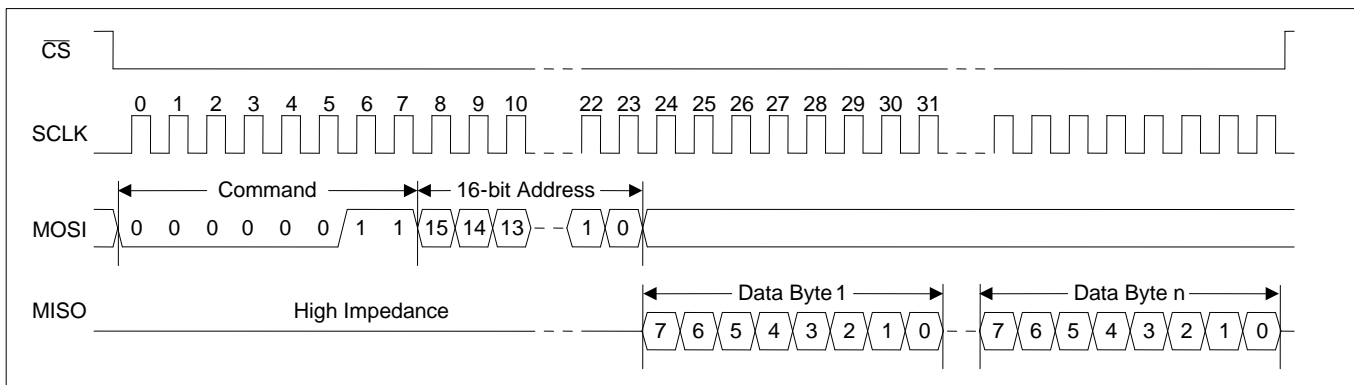

Figure 6 - SPI Read Transaction Functional Timing
continues to provide the data on MISO, increment its address counter, and prefetch the following byte. The read transaction is completed when the bus master drives CSN high. See Figure 6.
**Read Transactions.** After driving CSN low, the device transmits the read command followed by the 16-bit register address. The external EEPROM then responds with the requested data byte on MISO, increments its address counter, and prefetches the next data byte. If the device continues to demand data, the EEPROM continues to provide the data on MISO, increment its address counter, and prefetch the following byte. The read transaction is completed when the device drives CSN high. See Figure 6.